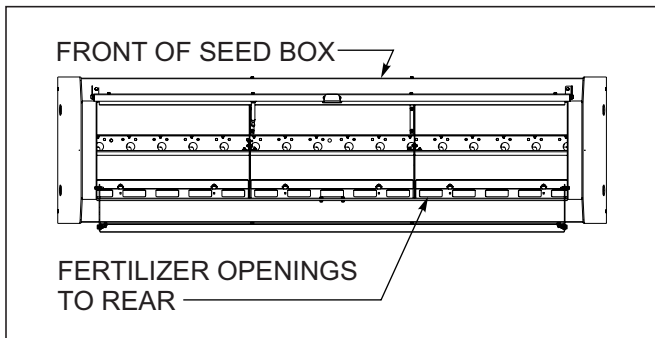

**Figure 4-17: Fill Shield in the Closed Position**
3. When using both seed and dry fertilizer, fill the seed box keeping fill shield in closed position over fertilizer box (*See Figure 4-17.*)